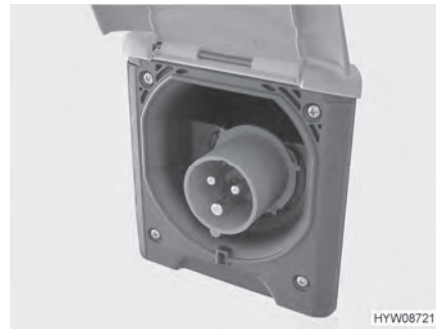

Fig. 98 230 V connection on the vehicle (CEE socket outlet)
- Open the cover of the 230 V connection on the vehicle (Fig. 98) and insert the plug connector. Ensure that the detent of the spring-mounted pivoting cover is engaged in position.